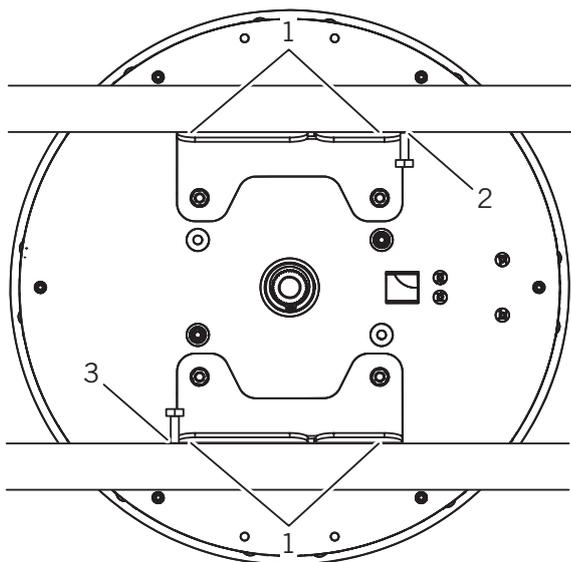

Fig. 78 Fixing the angle bracket
14. Once aligned, secure the operator (Fig. 78) to prevent movement. To do so, fix the angle brackets (Fig. 78/1) at the side with a screw (Fig. 78/2+3).
Tighten the mounting screw of the operator (Fig. 78/1). Observe the screw tightening torques.